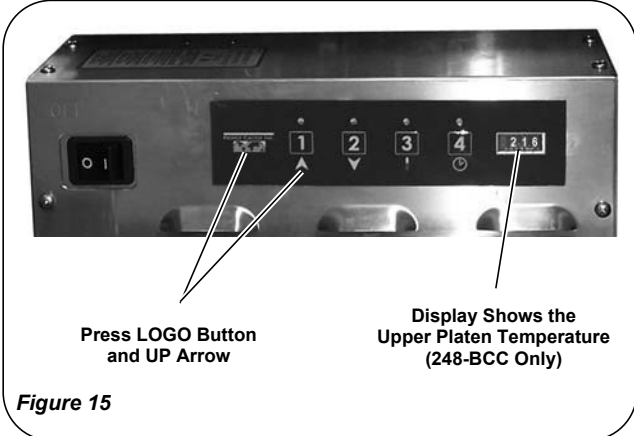

Figure 15
C. Release both buttons. (See Figure 15.)